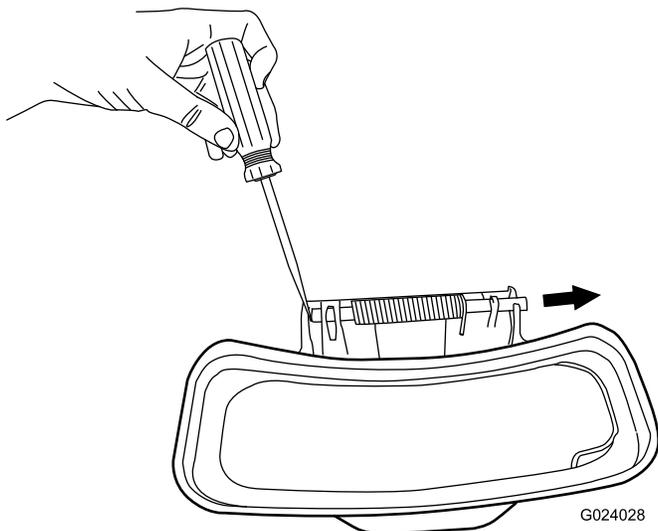

Figure 8
2. Pry the rod out of the spring on the side-discharge door with a large, flat-head screwdriver so that the other end of the rod is beyond the opening in the end of the door hinge (Figure 8).